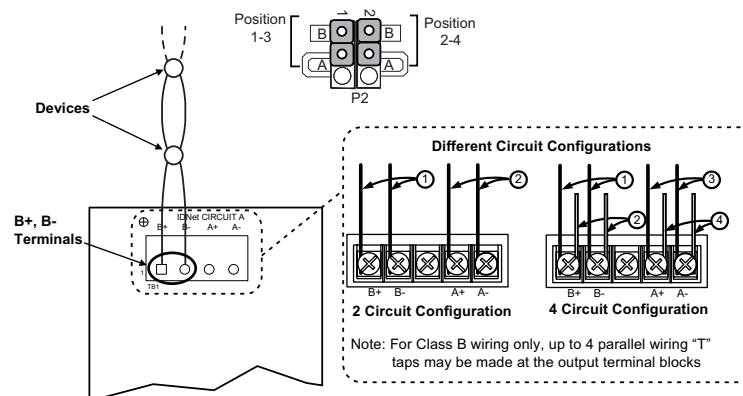

Figure 5-4. IDNet Class B Wiring
It is possible to add up to 4 circuits on the terminal block when using Class B wiring. See Figure 5-4 for the diagram.
3. Route wiring from the first device to the next as in/out as shown in Figure 5-4. Repeat for each device.